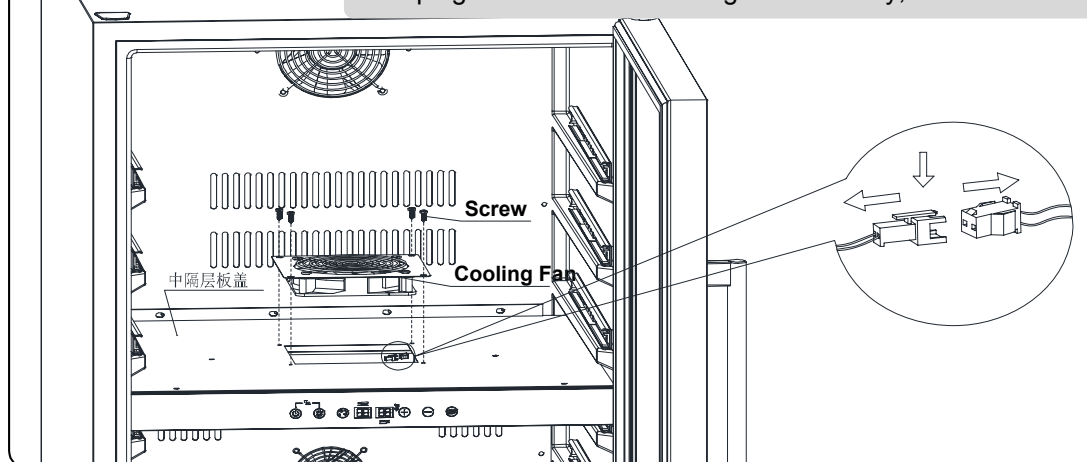

Figure 10
- Cooling Fan after disassembled (**Figure 10**);